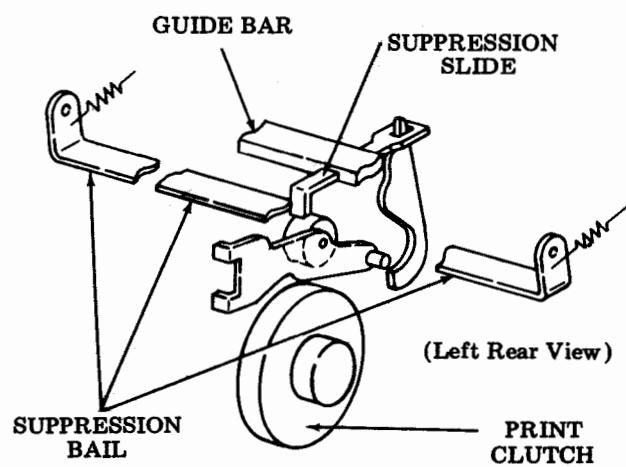

Figure 5 - Suppression Slide and Bail
(1) View the typing unit from the back over the trip shaft mechanism, and check to insure that the suppression slide is not hung-up over the suppression bail. The correct position is indicated in Figure 5. If corrective action is required, push down on suppression bail and move the suppression slide towards the front of the unit. Hold slide in and release the bail.